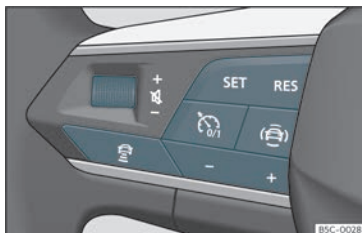

Fig. 170 On the multifunction steering wheel: buttons to operate the ACC
Your vehicle has ACC if it has a configuration menu in the infotainment system>>> page 90 and if it has the ACC function buttons on the multifunction steering wheel>>> **Fig. 170** .
- »» **Fig. 170.**
To program the speed, press the + or - >>> **Fig. 170** buttons to the desired speed. The speed is adjusted at intervals of 10 km/h (5 mph).
- Press the button  and then the button + or ->>> **Fig. 170**.